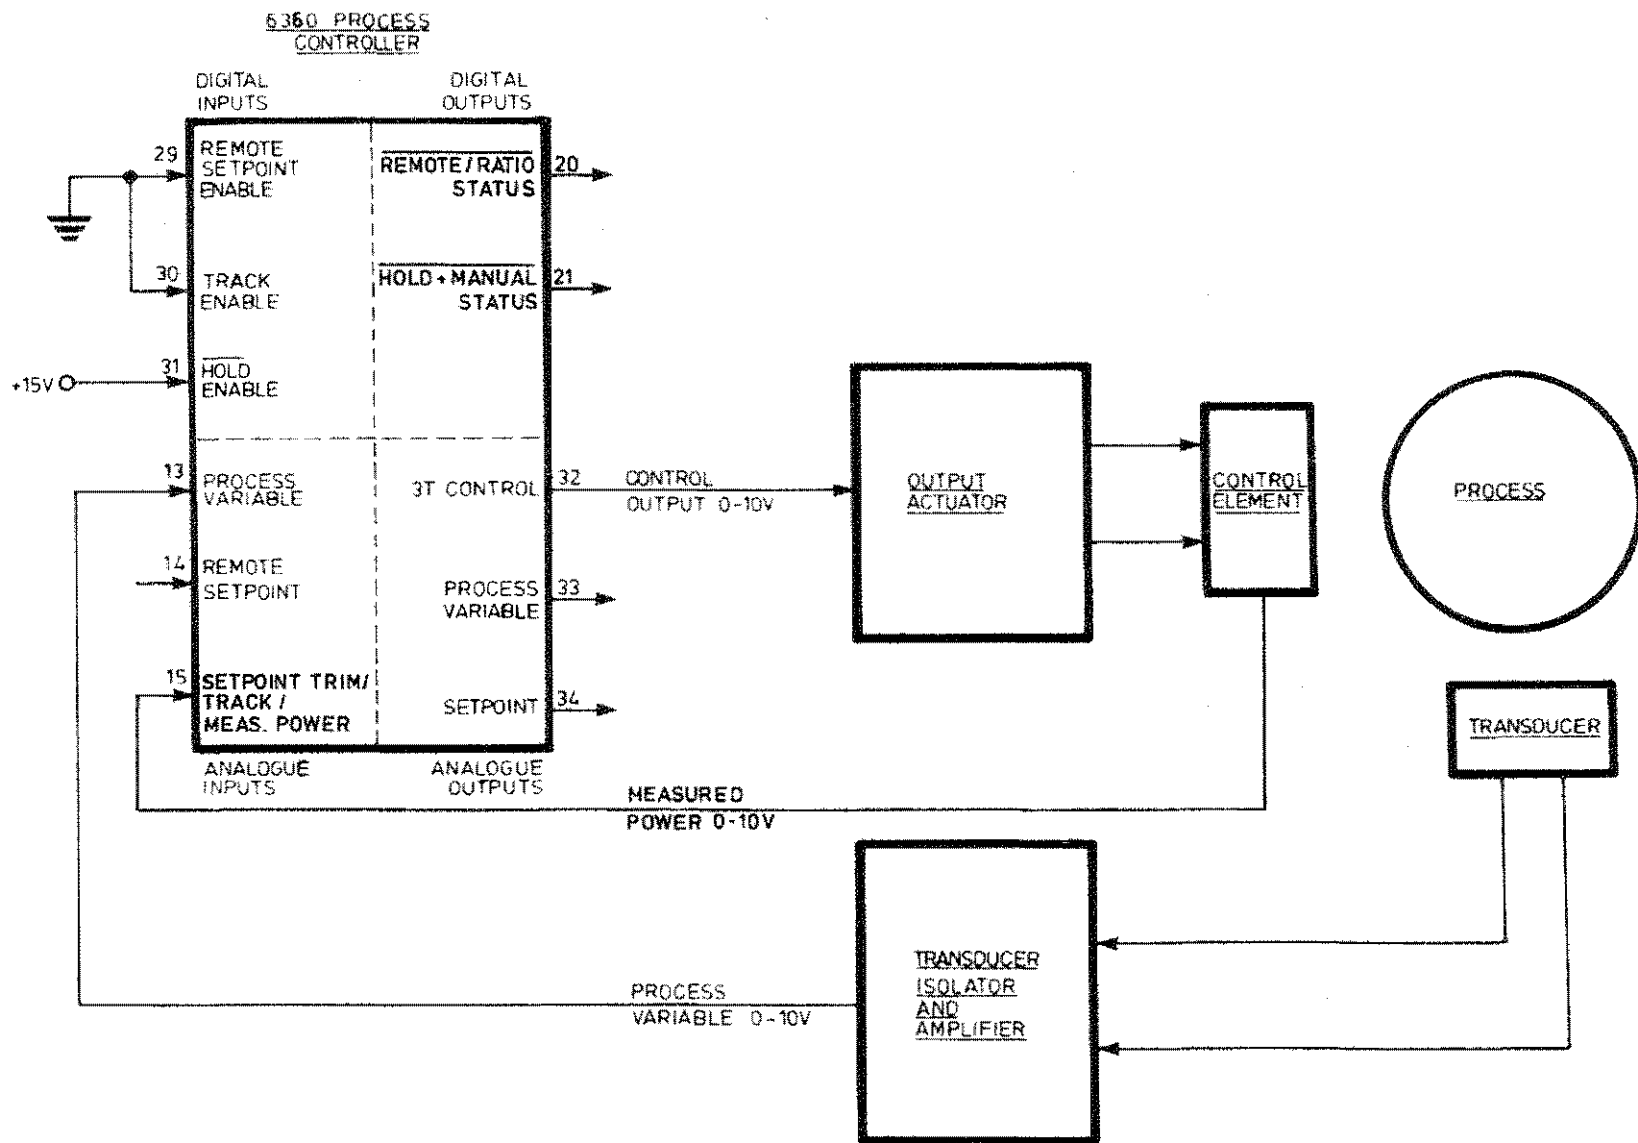

FIG 3-1 TYPICAL CONTROL LOOP CONFIGURATION
Fig 3.1 illustrates how a 6360 Controller may be configured within a control loop to function as a conventional Manual or Operator station. The Controller must be operating in the Manual mode when used in this way. Means of achieving this and the operating characteristics obtained are listed in the following sections.
- c) The 3-Term Control output level may be inspected as a 4 digit number in the range 0 to 99.99% on the digital readout by holding in the Manual Mode (M) push-button. While this push-button is held in an operator may alter the 3-Term Control output level by means of the Raise/Lower buttons. The buttons have an accelerating action and will Raise/Lower the 3-Term Output through the full 100% range in approximately ten seconds. Releasing either of these buttons causes the acceleration to be reset to the initial rate allowing very small incremental changes to be made to the 3-Term output level by repeatedly pressing and releasing the appropriate button. These Raise/Lower buttons have no effect on the Output level unless the Manual (M) button is held in. If inadvertently all 3 buttons are pressed at the same time the 6360 will inhibit all of them and put the 3-Term output into a temporary Hold state.
- d) The Controller may be used to display a Measured Power signal derived from a Control Element as shown in Figure 3.1 and under these conditions the Raise/Lower operation of the 3-Term output level is as described in Section 3.10.
Fig 3.1 illustrates how a 6360 Process Controller may be operated within a closed-loop control system to function as a conventional 3-Term Controller. For closed-loop operation the 6360 must be operating in the AUTO mode in this configuration and Table 3.5.1 shows that the conditions necessary to achieve this are as follows:-